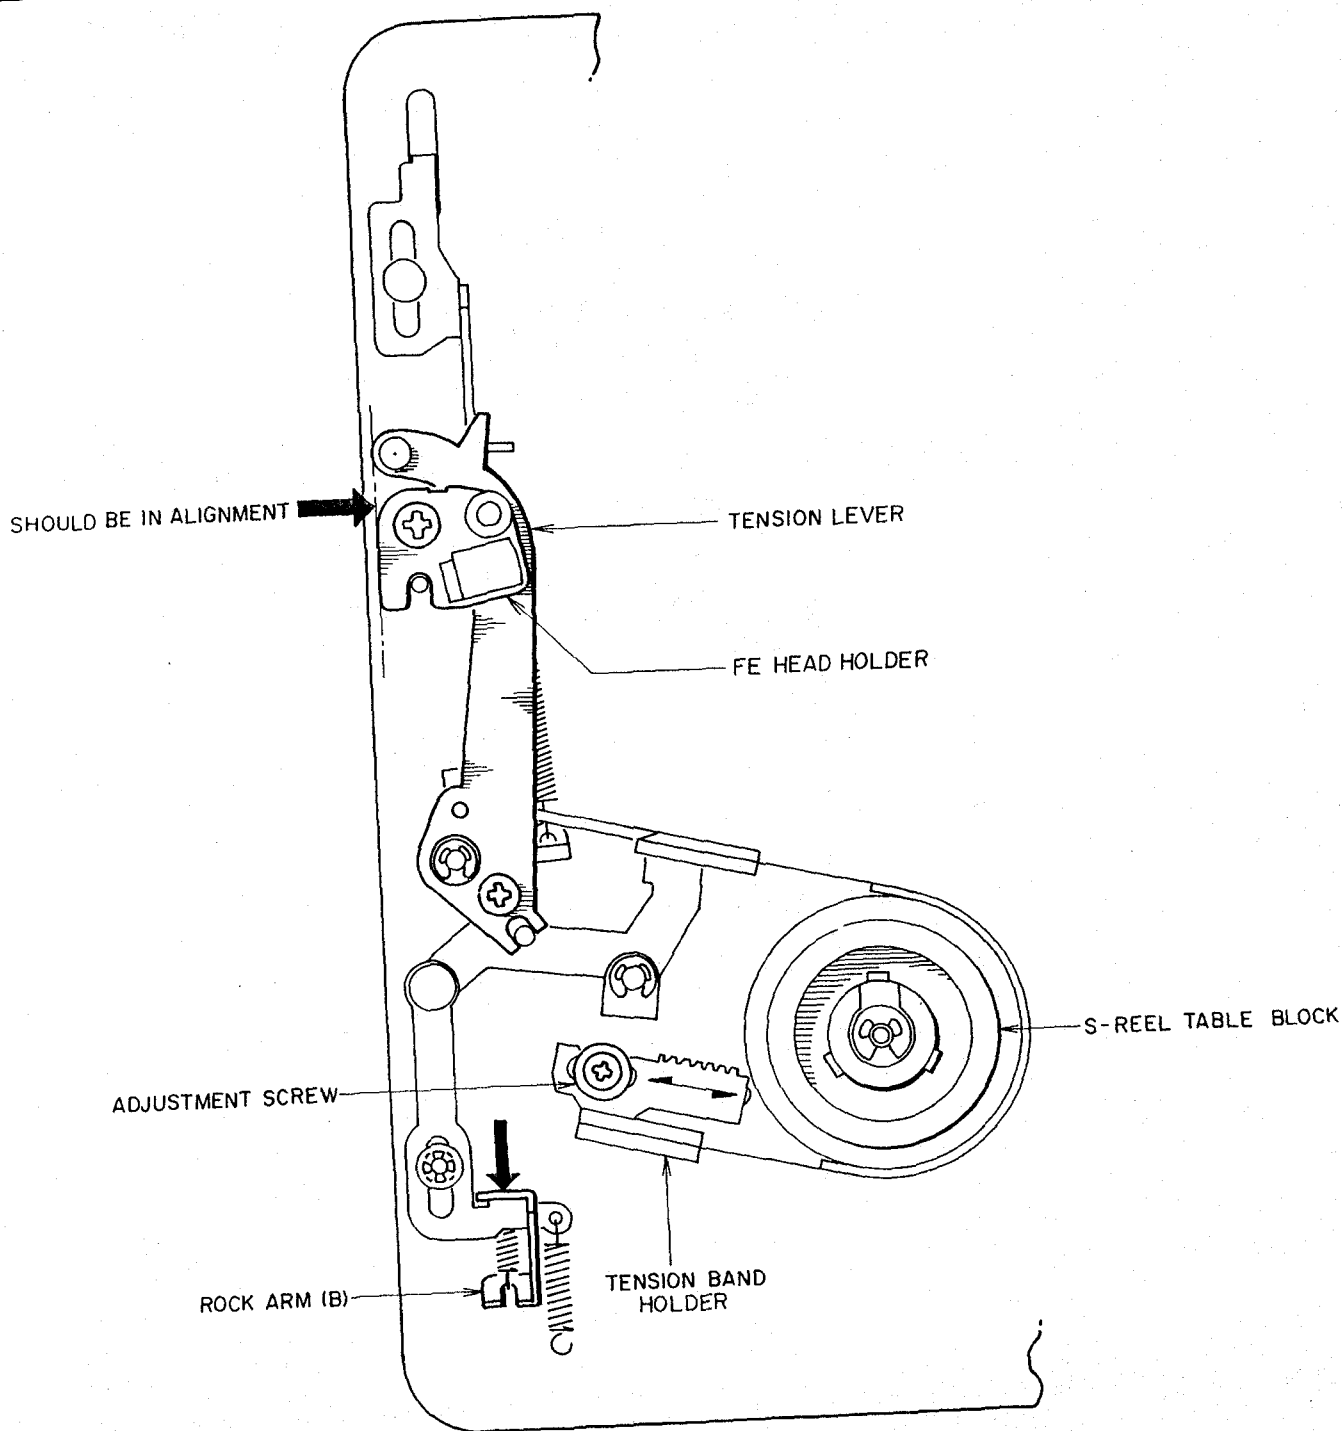

Fig. 109
### 1. TENSION LEVER POSITION ADJUSTMENT (Refer to Fig. 109)
- 3) Press the rock arm (B) in the arrow direction, and achieve PLAY mode.
- 5) Loosen the adjustment screw and adjust the tension band holder so that the tension lever and FE head holder are in alignment as shown in Fig. 109, and tighten the adjustment screw.